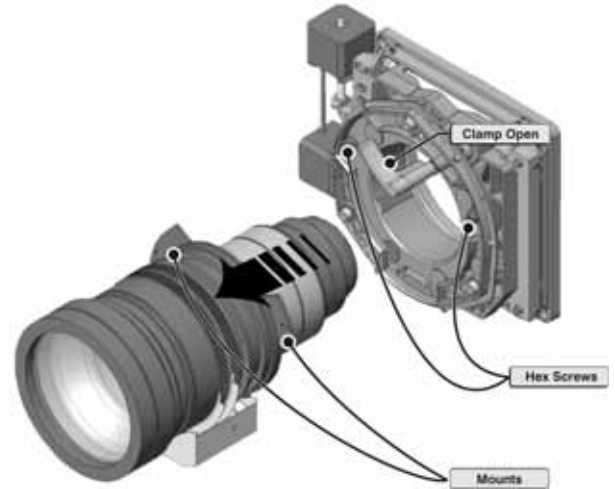

Figure 5-18 Remove Lens
2. Position the lens clamp OPEN to unlock the lens from the mount. (Figure 5-18)